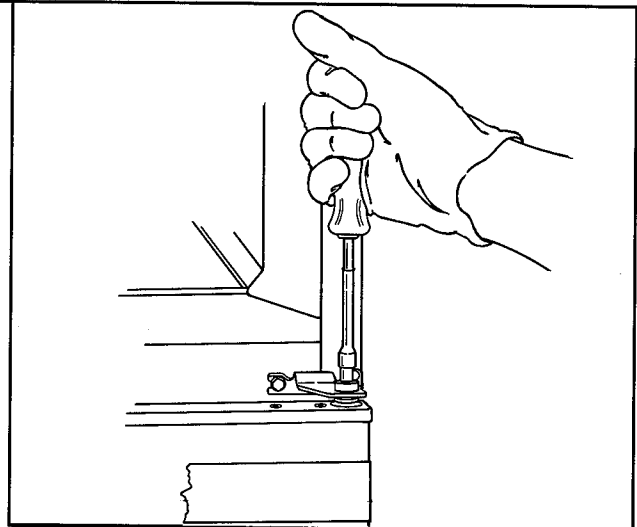

Figure 12
- b. Use a 5/16" nut driver to remove center hinge pin. See Figure 12.